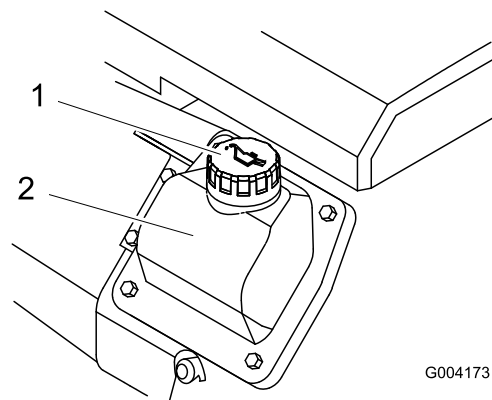

Figure 10
8. If the oil level is low, clean around the oil filler cap and remove the cap (Figure 10).